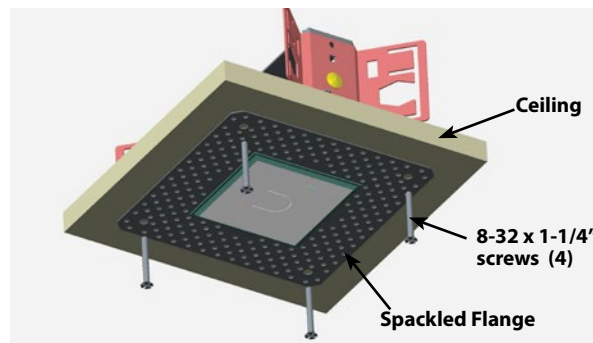

Fig: 3
1. Place **Spackle Flange** on ceiling and align the opening with the ceiling cutout. Carefully mark the (4) hole pattern on ceiling and remove **Spackle Flange**.
2. For New Construction (Fig: 3): Use a 7/32" drill bit to drill ceiling typical 5/8" ceiling depth. Align rib of **Spackle Flange** to rib in **Rough-in**. Insert the **Spackle Flange** and secure with 8-32 x 1-1/4" screws.